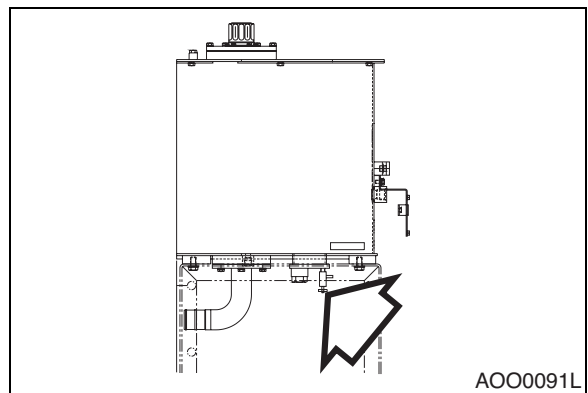

Figure 94
2. Position a catch tank beneath hydraulic reservoir drain plug. Release pressurized air from the hydraulic oil tank by rotating breather cap. (See Figure 13 on page 4-13). Remove drain plug from bottom of reservoir. (Figure 94). Allow all hydraulic oil to drain out.